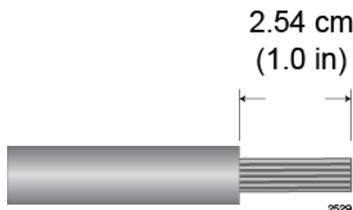

Figure 109. Stripping the solid or Stranded Grounding Wire
1. Prepare an adequate length of solid or stranded 10 AWG grounding wire by stripping it as shown in Figure 109.